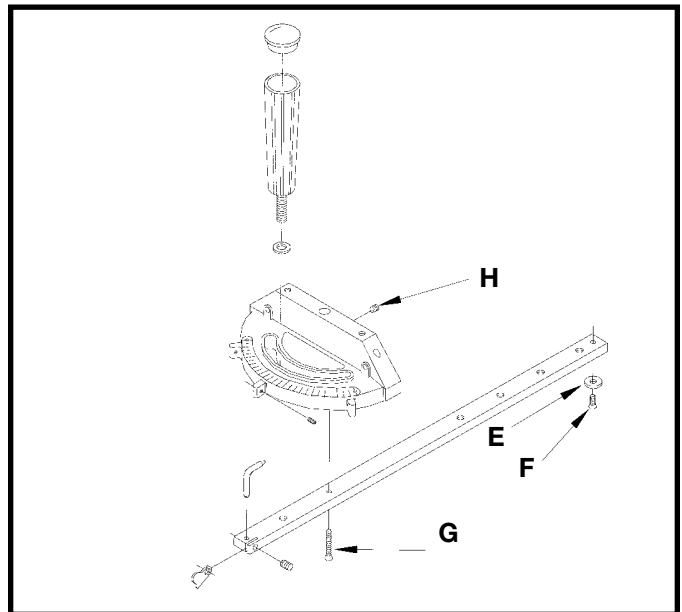

Fig. 104
5. The head of the miter gage pivots on a special tapered screw (G) that fastens the head to the miter gage bar. If the miter gage head does not pivot freely, or pivots too freely, it can be adjusted by loosening set screw (H) Fig. 104, and turning the screw (G), in or out. Be certain to tighten screw (H) after adjustment is made.